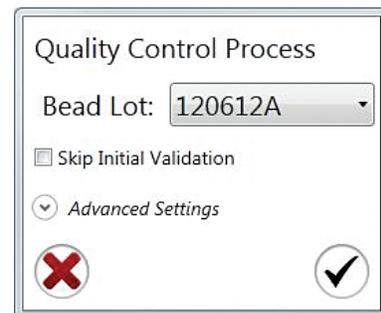

Fig. 35. Event Based Alignment Settings window.
6. Choose the correct bead lot from the dropdown menu in the Event Based Alignment Settings window (Figure 35).